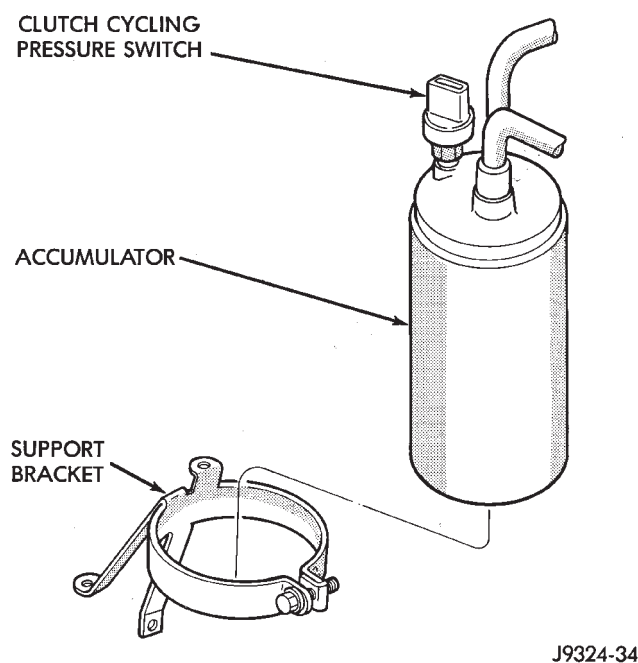

Fig. 4 Clutch Cycling Pressure Switch
(4) Open the windows and/or doors of the passenger compartment. Set the air conditioning controls to A/C, PANEL, RECIRC (temperature knob on full cool) and blower speed on HIGH.
(5) Start the engine and hold at 1,000 RPM. Allow the engine to warm up to normal operating temperature.
(6) The A/C clutch may cycle depending on ambient conditions. If clutch cycles, remove the clutch cycling pressure switch connector from the switch located on the accumulator (Fig. 4). Place a jumper wire across the terminals of the clutch cycling pressure switch connector.
(7) Hold the engine speed at 1,000 RPM.
(8) Allow 3 to 5 minutes for the A/C system to stabilize. Record the temperature difference between the evaporator inlet and outlet tubes. Allow the equipment to stabilize.